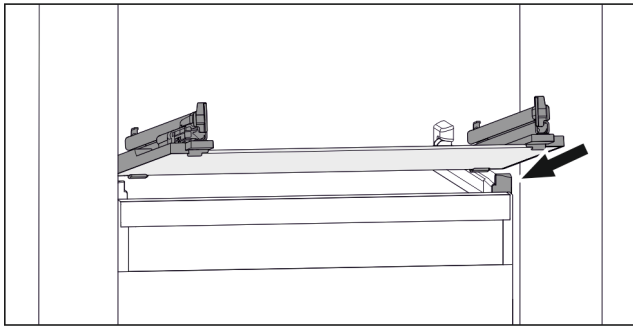

Fig. 139 Example illustration of glass shelf
- ▶ Position glass shelf at an angle behind the stoppers. (see Fig. 139)